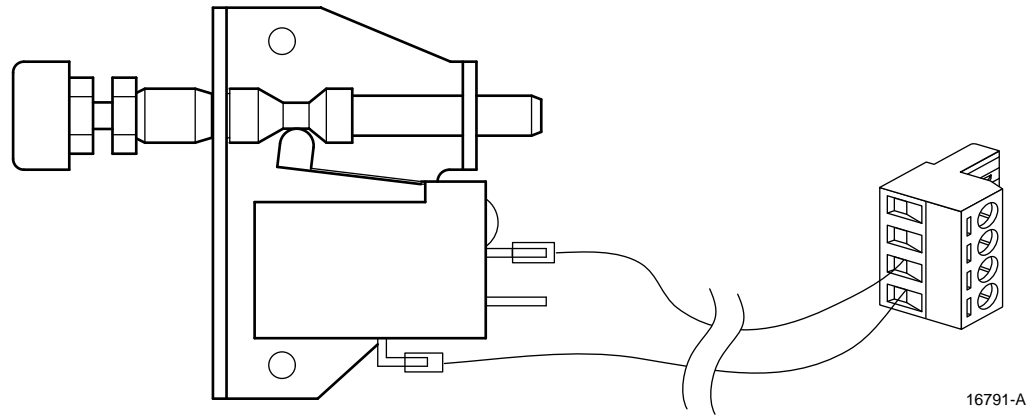

Figure 9. Connectorizing Door Open Switch
The door open switch is shipped to the field with stubbed power conductors. Install the stubbed conductors from the door open switch in the ADC-provided right angle plug at the pin locations shown in Figure 9. After completing this step, insert the right angle connector into the alarm connector on the front of the STM (refer to item 16 on Figure 1). A door open condition typically generates a Major Alarm.